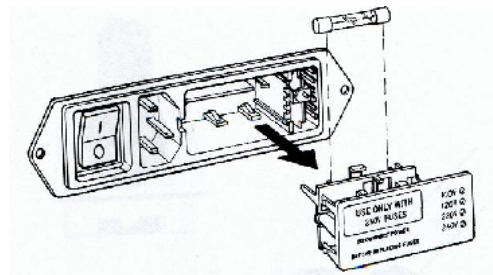

Figure 6-2 Fuse Removal
2. Remove the fuse holder from the input-line connector as Figure 6-2 illustrates.